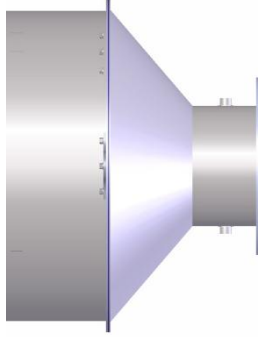
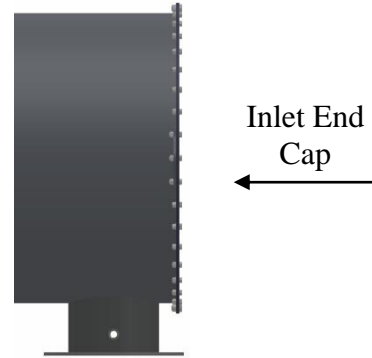

Figure 16: Inlet Cone Assembly
Figure 17: Inlet End Cap
- c. If excess ash is found and while the inlet pipe is removed, disconnect the either the inlet cone or the inlet end cap, an example of each shown in Figure16 and Figure17.